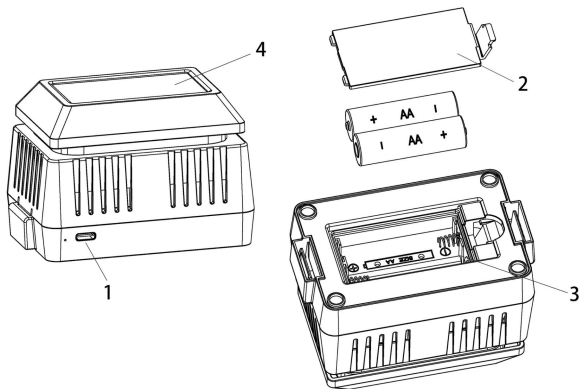

Figure 2
1.Remove the battery door on the base of the air quality sensor as shown in **Figure 2**.